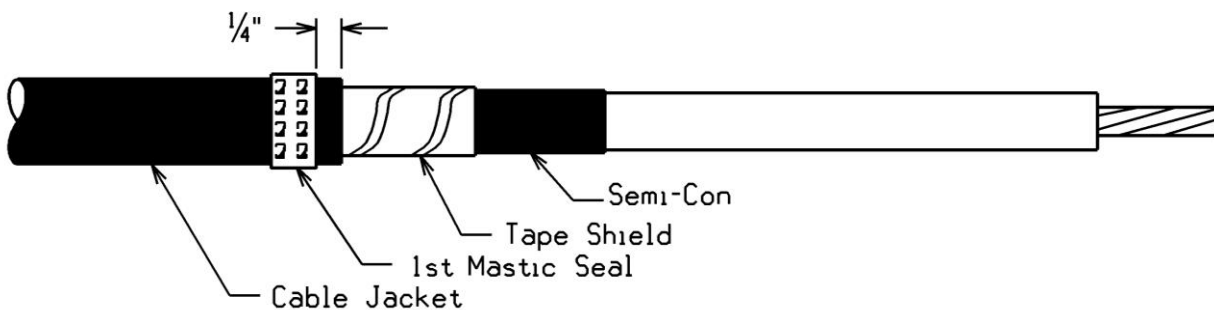

Figure 17
1. Select one of the mastic strips from the termination kit and remove the white release liners. Using light tension apply a single wrap of mastic around the cable jacket ¼ inch from the cut edge. Cut off excess mastic. See Figure 17.